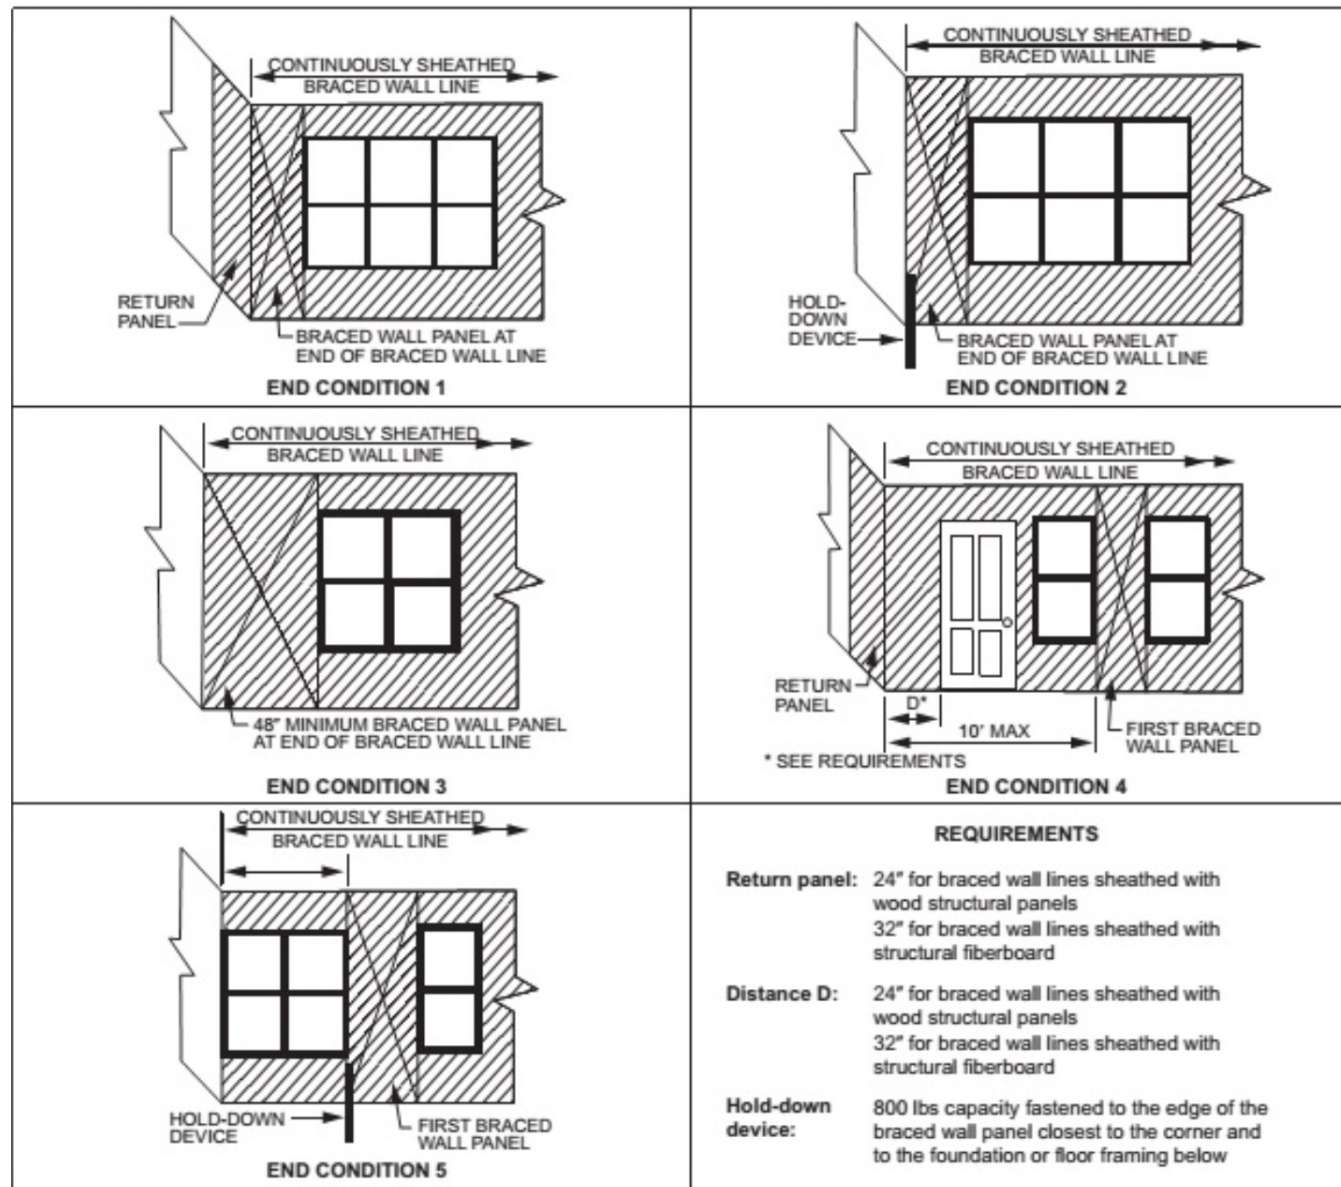

FIGURE R602.10.7
EACH END OF A BRACED WALL LINE WITH CONTINUOUS SHEATHING SHALL HAVE ONE OF THE CONDITIONS SHOWN IN FIGURE R602.10.7 SHOWN BELOW.
- EXTERIOR WALLS ARE BRACED PER METHOD **CS-WSP** (CONTINUOUS SHEATHING). EXTERIOR CORNERS ARE TO BE CONSTRUCTED PER FIGURE FIGURE R602.10.7 IRC. SEE DETAIL ON 'D' SHEETS.
- A SPACING UP TO 35' IS PERMITTED BETWEEN ADJACENT BRACED WALL LINES WHERE THE LENGTH OF THE BRACING REQUIRED IS MULTIPLIED BY THE APPROPRIATE ADJ FACTOR FROM TABLE R602.10.1.5, THE LENGTH TO WIDTH RATIO OF THE FLOOR/ROOF DIAPHRAGM DOES NOT EXCEED 3:1, AND THE TOP PLATE LAP SPLICE FACE NAILING IS (12) 16d NAILS ON EACH SIDE OF THE SPLICE.